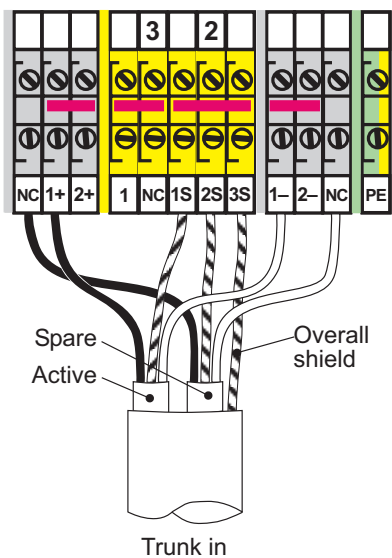

Figure 4.5 - 'Trunk In' with Active & Spare cable pairs
- c) Connect the prepared ends of the fieldbus trunk cable(s) into the appropriate '+', '-' and 'S' terminals, shown in Figure 4.5, and tighten the screw terminals to a recommended torque of 0.6 Nm.
Note: Figure 4.5 shows the screw-terminal '-PS' enclosure option, but the '-PC' cage-clamp terminal arrangement is similar.